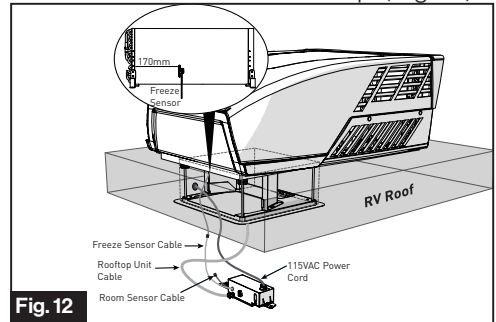

Fig. 12
13. Lock the freeze sensor onto the pipe of the evaporator. Connect the freeze sensor cable of the control box to the freeze sensor of the rooftop. (Fig. 12)